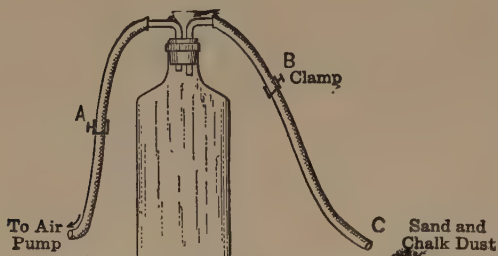

FIG. 19.— Principle of vacuum cleaner.
**Demonstration of the vacuum principle.** The following demonstration will explain the working principle of the vacuum cleaner. Partly exhaust a large bottle, such as shown in Fig. 19, by means of an air pump. Close A. Hold C over powdered chalk and coarse sand, and open B. The atmospheric pressure causes a rush of air into the bottle, forcing the chalk dust through the pipe with it. Exhaust the bottle as